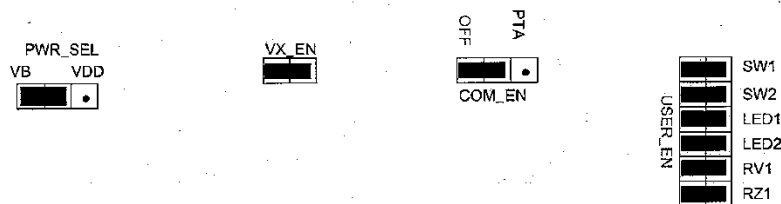

Figure 5 Shorting straps on DEMO9S08QG8 board
8) Test your program. We want to do that with the microcontroller still on the DEMO board. But, the DEMO board has all those buttons, LED’s potentiometer and photosensor connected to signals we are using differently. So, if you want to test it on the board, you must pull out the straps that connect those on-board peripherals. I suggest you remove all 6 “user” straps. Those are the ones grouped together labeled “USER EN”, as shown in Figure 5. Don’t lose the shorting straps! You will want them later. Leave the other three straps in their default configuration as shown in the figure.